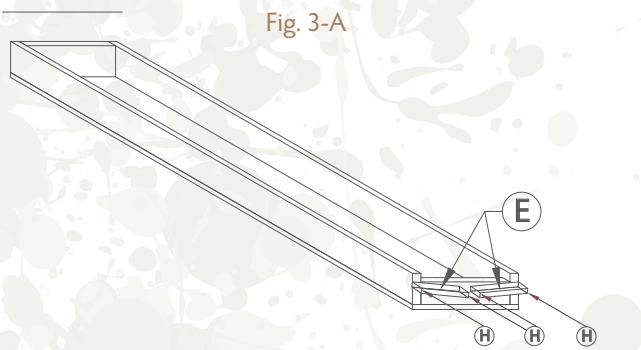

Fig. 3-A
5. Attach boards "E" at an angle as shown in Fig. 3-A using wood glue & nails specified.